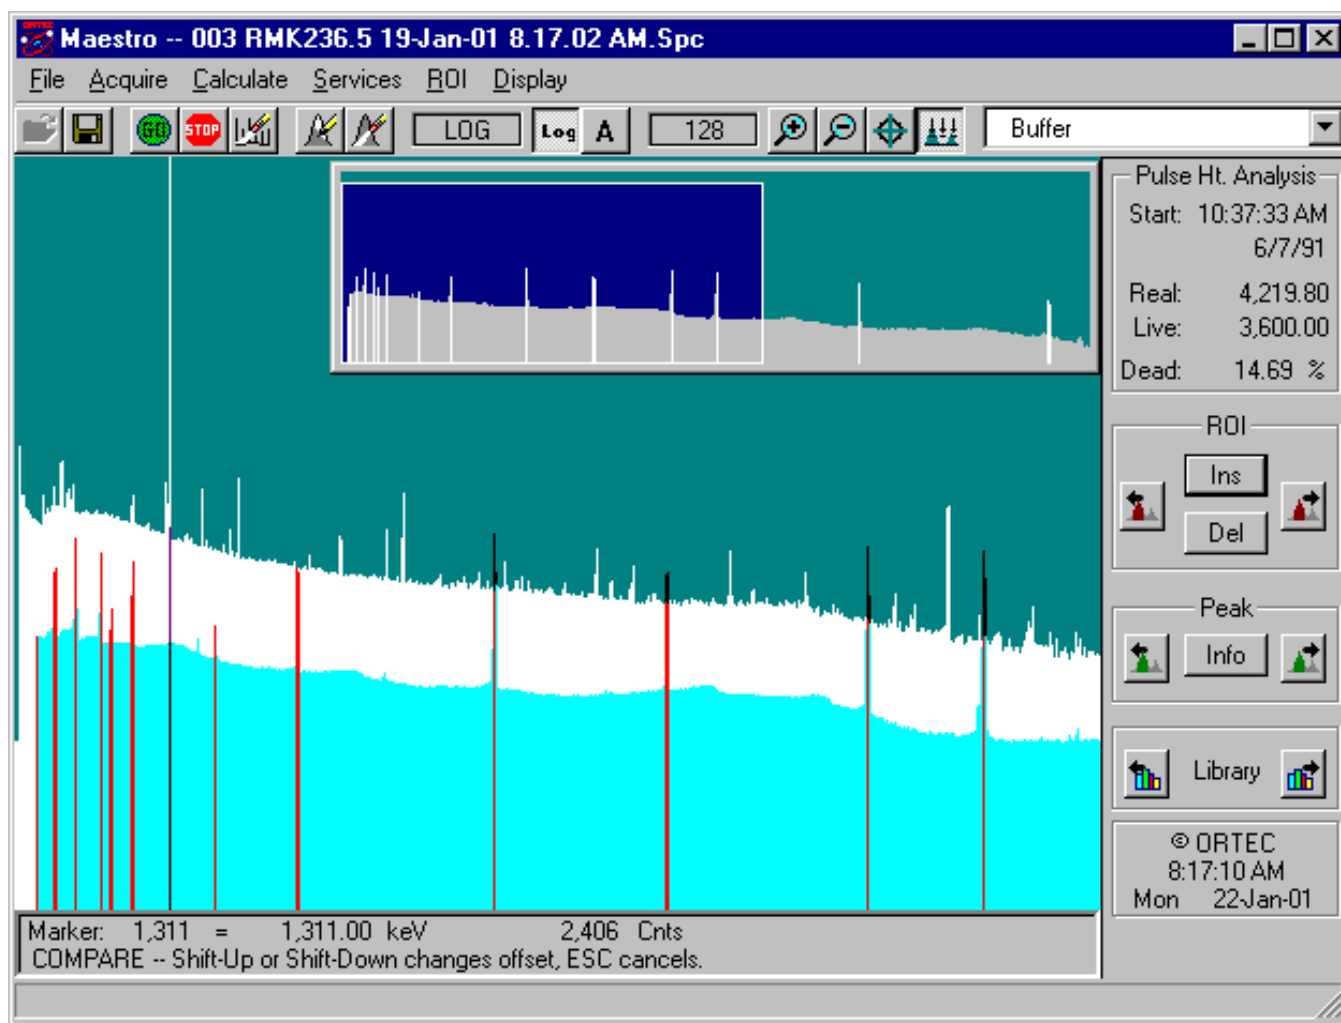
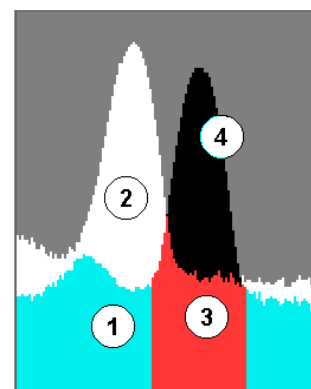

Fig. 39. Compare Mode Screen.
Fig. 40. Spectrum Colors in Compare Mode.
This function displays a spectrum from disk along with the current spectrum so the two can be visually compared. A standard file-recall dialog box opens. Once the desired spectrum file is selected, the Expanded Spectrum View shows both spectra, as illustrated in Fig. 39.
Figure 40 is a zoomed-in portion of Fig. 39. In this illustration, the starting spectrum is displayed in color (1), the Compare spectrum is shown in color (2), the starting spectrum's ROIs are marked in color (3), and the portion of the starting spectrum that exceeds the Compare spectrum is indicated by color (4). These colors — called **Foreground**, **Compare**, **ROI**, and **Composite**, respectively — are chosen on the **Color Preferences** dialog discussed in Section 4.6.11.2.